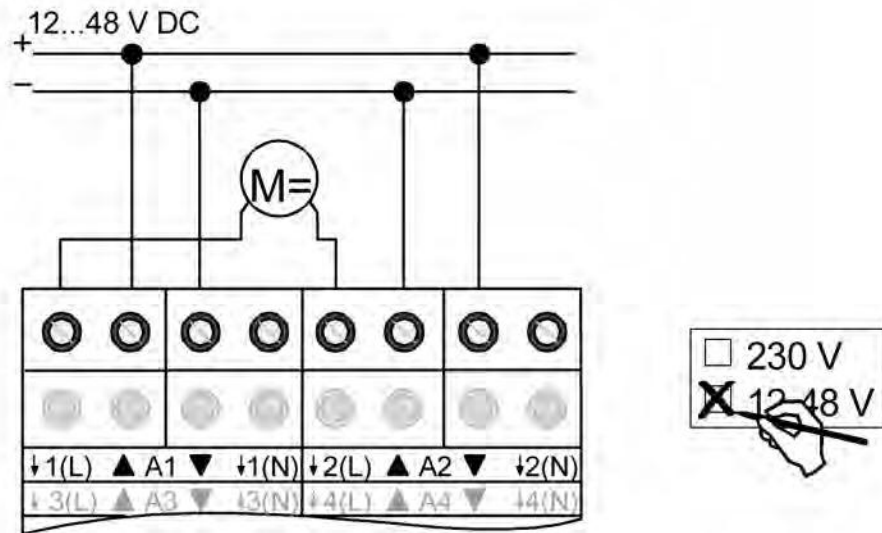

Figure 7: Electrical connection for 12 ... 48 V drives
- Connect the drives as shown in the wiring example (figure 7).